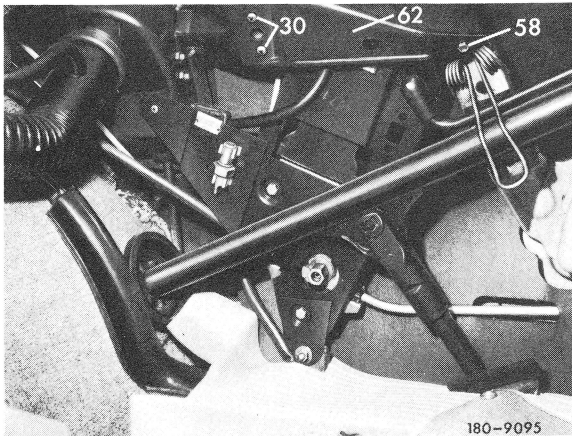

Fig. 2
- 2** Unscrew hex. screw (58) from bracket (62) (Fig. 2).
- 3** Unscrew both oval head screws (30) on vacuum element (Fig. 2).
- 9** Screw bracket (62) with oval head screws (30) to vacuum element (Fig. 2).
- 10** Screw bracket (62) with hex. screw (58) to mounting (Fig. 2).